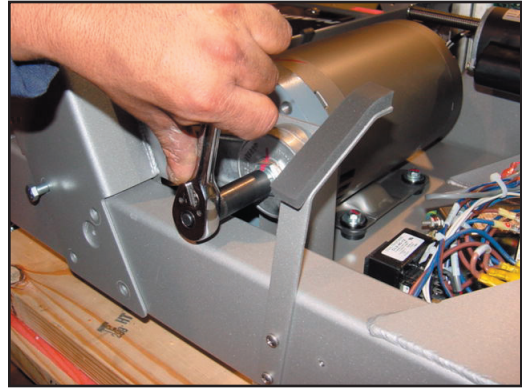

Figure 2.7
- 2.6 Remove the Bolt and Tensioner assembly from the frame (see Figure 2.7 and 2.8).